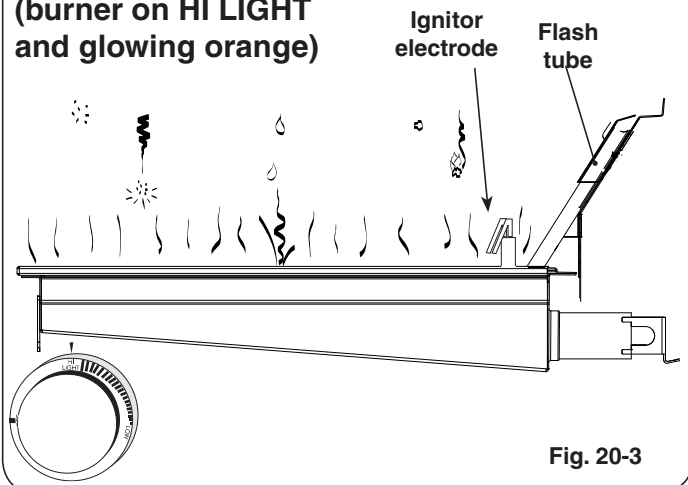

Fig. 20-3
- **DO NOT** place food on the cooking grid until the IR burner glows orange (Fig. 20-3). Drippings are heated and evaporate instead of sticking to and impairing burner function.